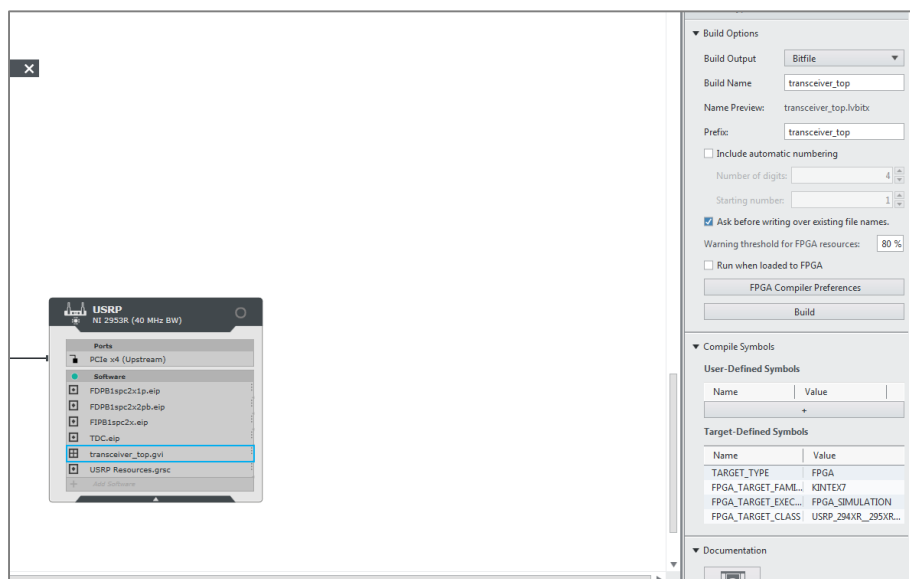

Figure 82: Compile the Project
- c. Click **Build** in the right-hand rail as shown in Figure 82.